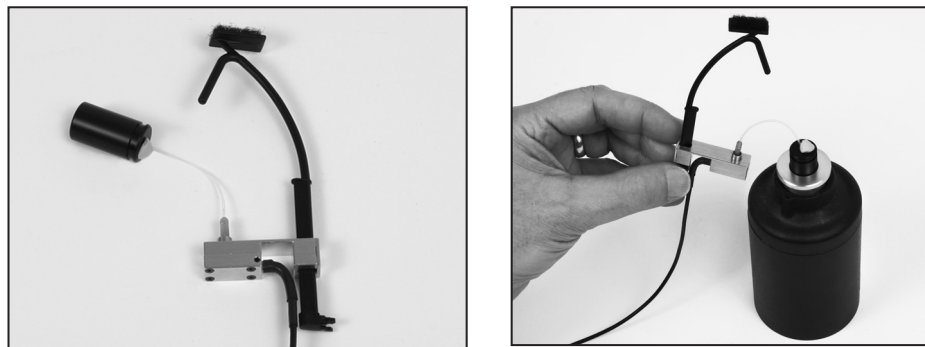

Figure B.1D—Calibrating the real-ear probe microphone
4. Thread the probe tube through the edged side of the probe microphone adapter so that the probe tube sticks out a couple of millimeters from the other end of the adapter. See Figure B.1D.